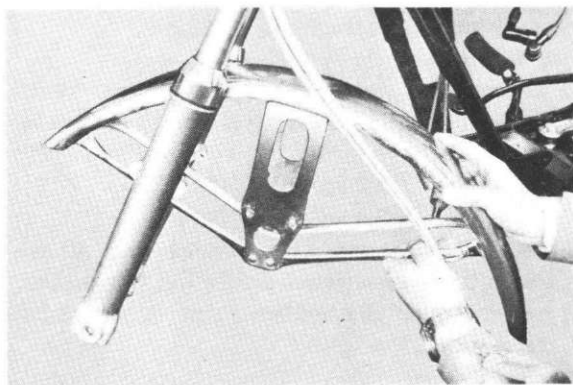

Fig. 5-8-1
- 1) Remove the front fender. (Fig. 5-8-1)
- 1) Retirez le garde-boue avant. (Fig. 5-8-1)
- 1) Vorderes Schutzblech demontieren. (Abb. 5-8-1)